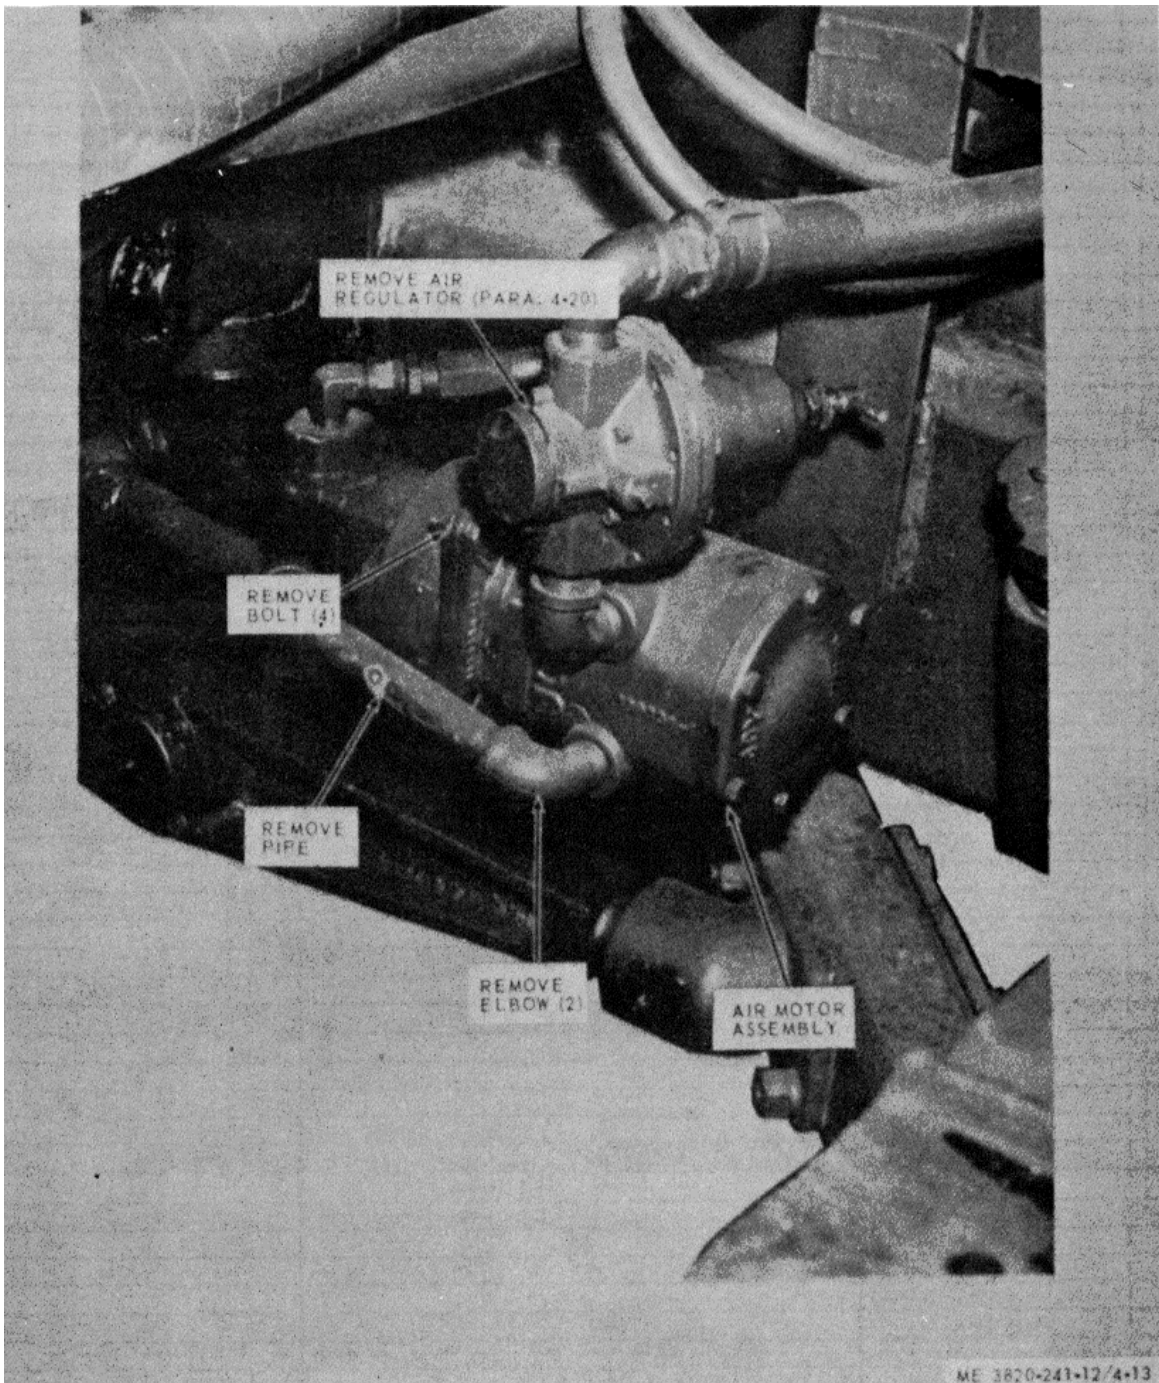

Figure 4-13. Air motor, removal and installation.
a. Removal. Remove the air motor as illustrated in figure 4-13.
- (1) Install the air motor as illustrated in figure 4-13.
- (2) Operate the rock drill (para 2-5) and check for leaks.